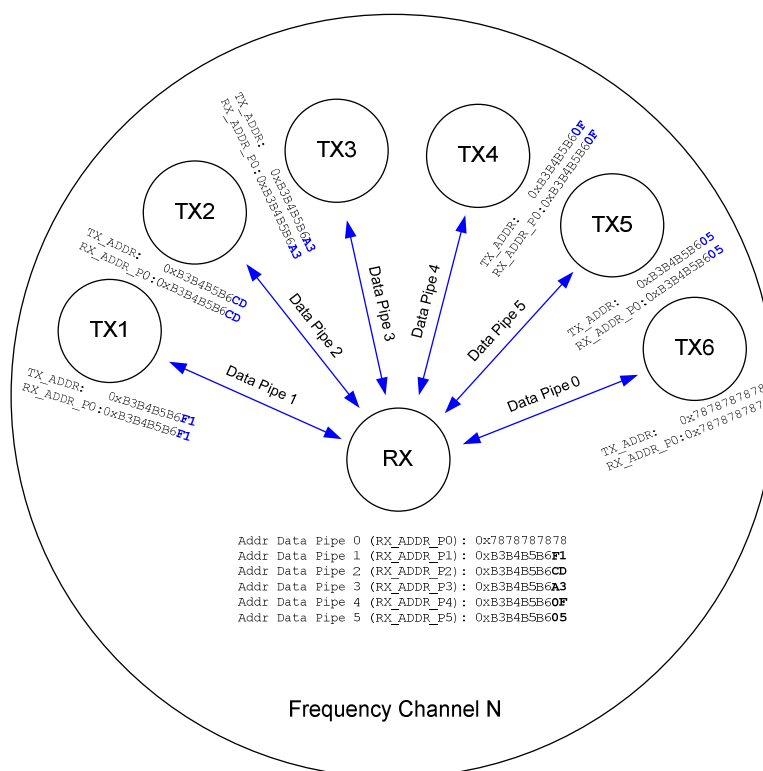

Figure 5: Example on how the acknowledgement addressing is done
nRF24L01 will use the data pipe address when acknowledging a received packet. This means that nRF24L01 will transmit ACK with the same address as it receives payload at. In the PTX device data pipe 0 is used to receive the acknowledgement, and therefore the receive address for data pipe 0 has to be equal to the transmit address to be able to receive the acknowledgement. See Figure 5 for addressing example.
2. When the application MCU has data to send, the address for receiving node (TX_ADDR) and payload data (TX_PLD) has to be clocked into nRF24L01 via the SPI interface. The width of TX-payload is counted from number of bytes written into the TX FIFO from the MCU. TX_PLD must be written continuously while holding CSN low. TX_ADDR does not have to be rewritten if it is unchanged from last transmit. If the PTX device shall receive acknowledgement, data pipe 0 has to be configured to receive the acknowledgement. The receive address for data pipe 0 (RX_ADDR_P0) has to be equal to the transmit address (TX_ADDR) in the PTX device. For the example in Figure 5 the following address settings have to be performed for the TX5 device and the RX device: